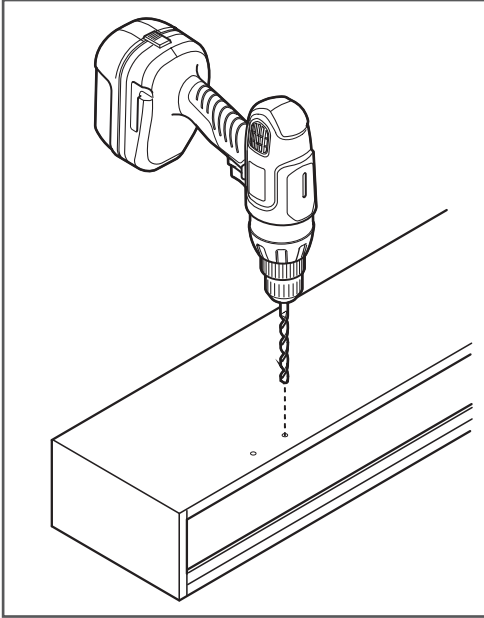

Figure 3
4. Using a drill with an 1/8" drill bit, drill the holes for the corbels into the mantel (Figure 3).